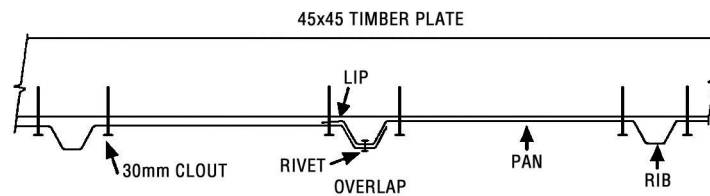

fig. 1
When fitting Gable End Sheets ensure they overlap correctly (**fig 1**).
Step 2: Back Wall: Position the first Wall Sheet with the LIP on the right hand side. Ensuring the LIP is flush with the side of the Studs and the top of the Wall Sheet is flush with the top of the Top Plate, tack in place. Position the next Wall Sheet with the LIP on the right hand side. Overlap as shown in (fig 1). Ensuring Wall Sheet is flush with top of Top Plate, tack in place. Repeat with remaining sheets.